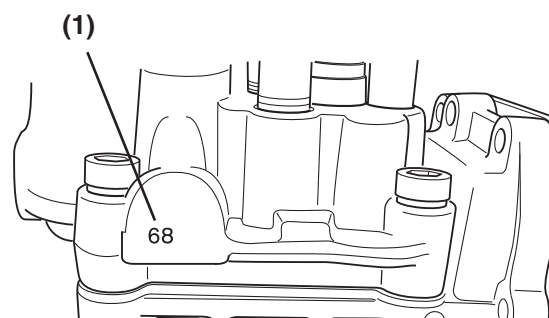

Figure 7-18
If installing a new or recalibrated fuel injection pump, locate and record the timing index number located on the pump housing boss on the engine side of the new or recalibrated fuel injection pump (**Figure 7-18, (1)**). This number will be used to calculate and adjust the final fuel injection timing.